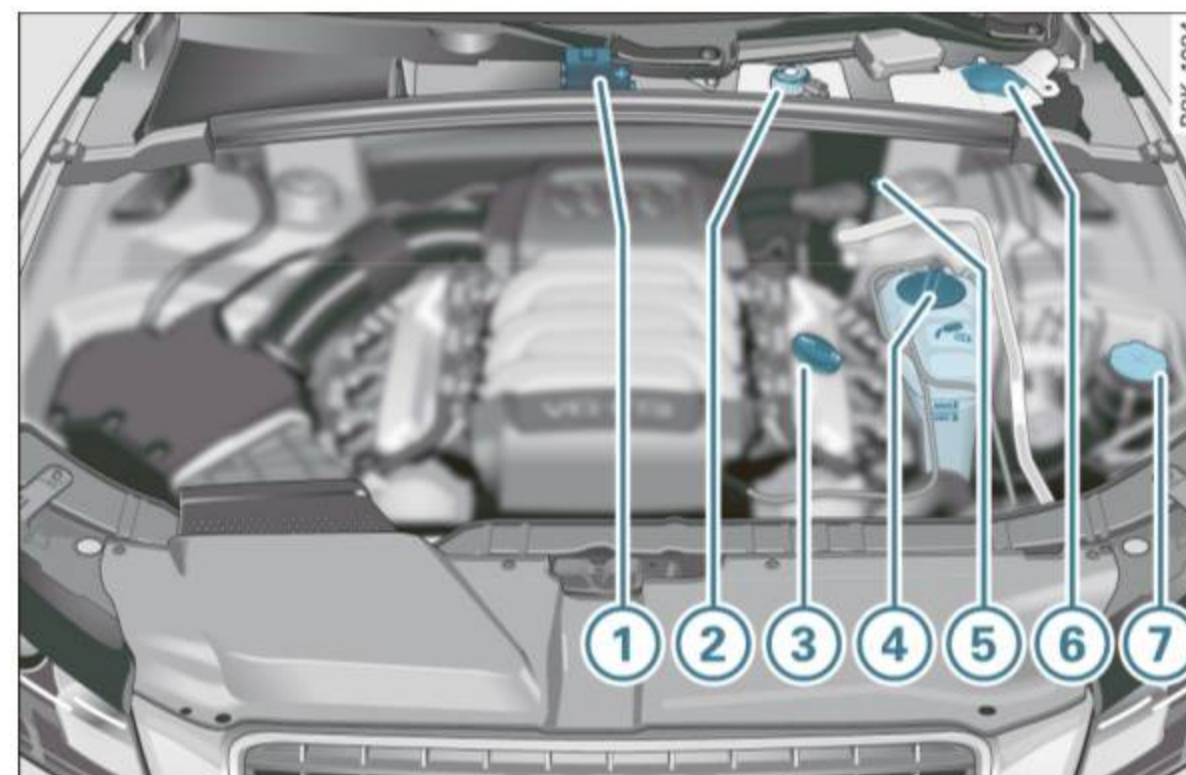

Fig. 212 Typical layout for containers and engine oil filler cap
The position of the engine oil filling hole ⇒ fig. 212 (item ③) can differ depending on the engine design. ►